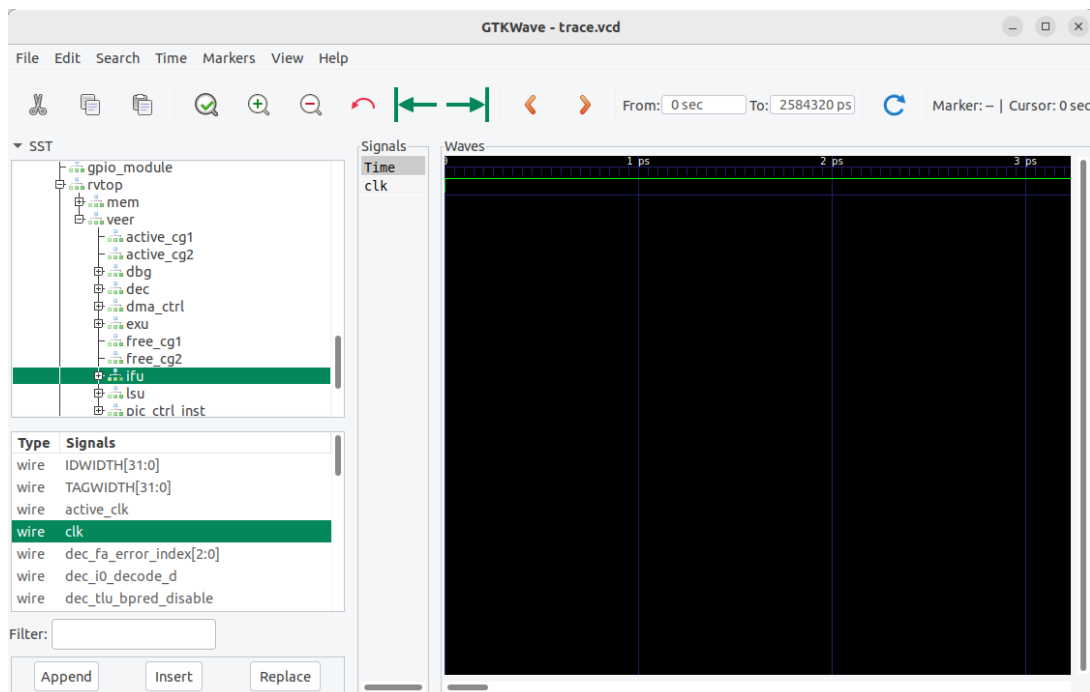

Figure 67. Add signal *clk* to the graph
- Now you will add clock, instruction, and register signals. On the top left pane of *GTKWave*, expand the hierarchy of the SoC so that you can add signals to the graph. Expand the hierarchy into **TOP** → **rvfpgasim** → **VeeRwolf** → **rvtop** → **veer**, and click on module **ifu** (it will highlight as shown in the Figure 67), select signal **clk** (which is the clock used for the core) and drag it into the white Signals pane or the black Waves pane on the right.